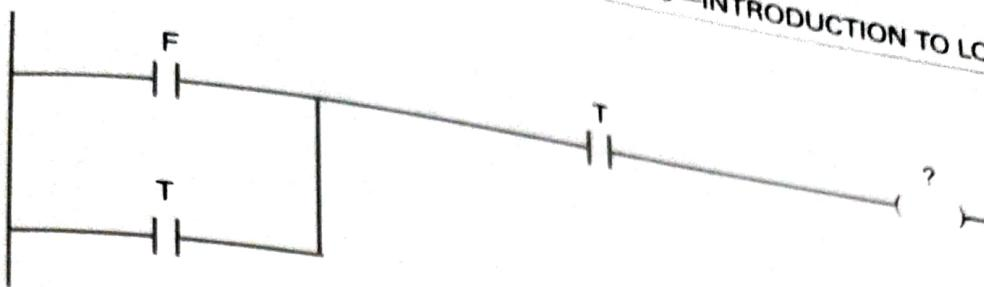

Figure 6-48 Rung for question 12.
12. Will the following rung be true or false (see Figure 6-48)?